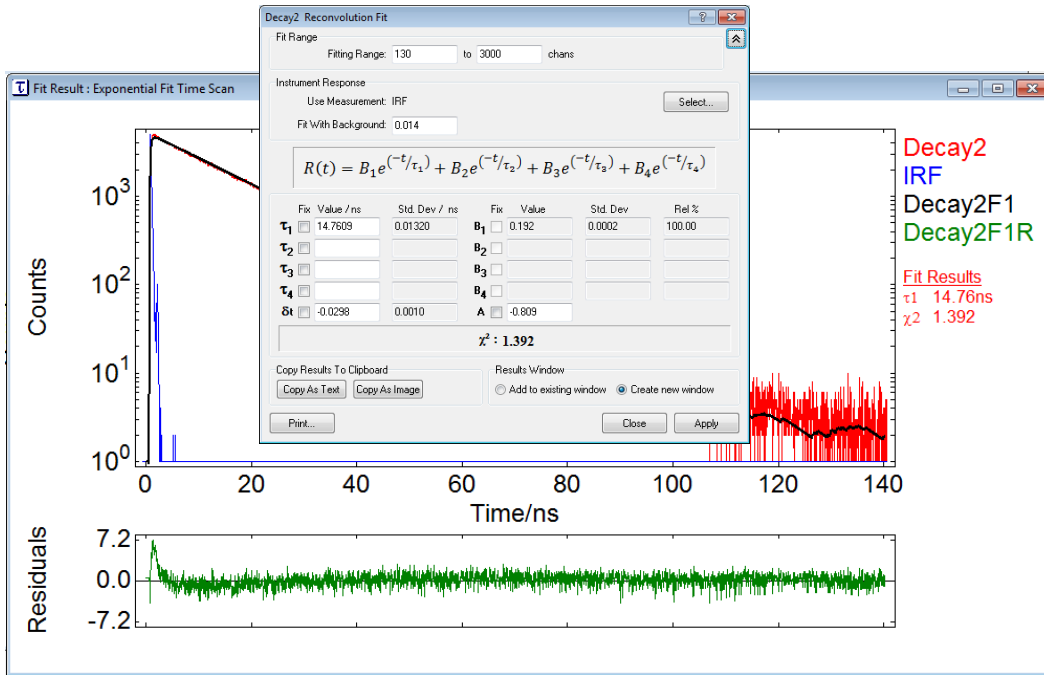

Figure 7-9a: Single exponential reconvolution fit of example decay "A"
- (1) the value of the  $\chi^2$ : For a good fit this should be close to Unity. (\*)
- (2) the residuals (shown in the fit plot): For a good fit they should be randomly distributed around Zero.
- Figure 7-9a and Figure 7-10a show unsatisfactory single exponential fit results for decay “A” and “B”, respectively. It is clear from the look of the residuals that a fit with more than a single exponential model function would give better results.